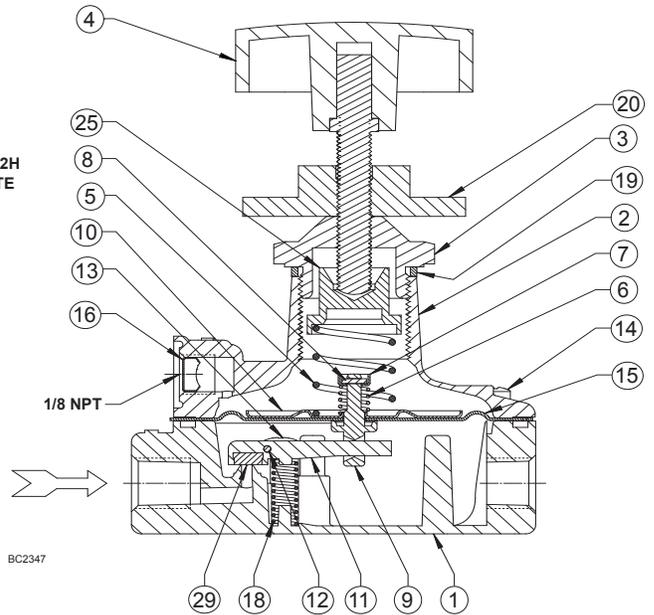

Figure 3. 912N Series with Handwheel Construction Assembly
Refer to Figure 3 on units with a handwheel (key 4), turn the handwheel counterclockwise until the tension is relieved from the control spring (key 5). Unscrew the nut at the base of the handwheel and lift the handwheel off the spring case (key 2). Lift out the adjusting screw (key 4) and the control spring.